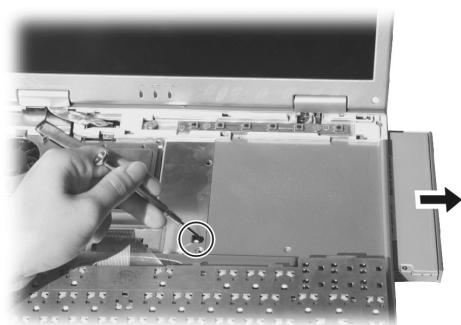

Figure 2-10
3. Use the screwdriver to push the metal pad to the right and the CD/DVD-ROM drive will pop out. Hold the CD/DVD-ROM drive and slide it outwards carefully. (Figure 2-10)